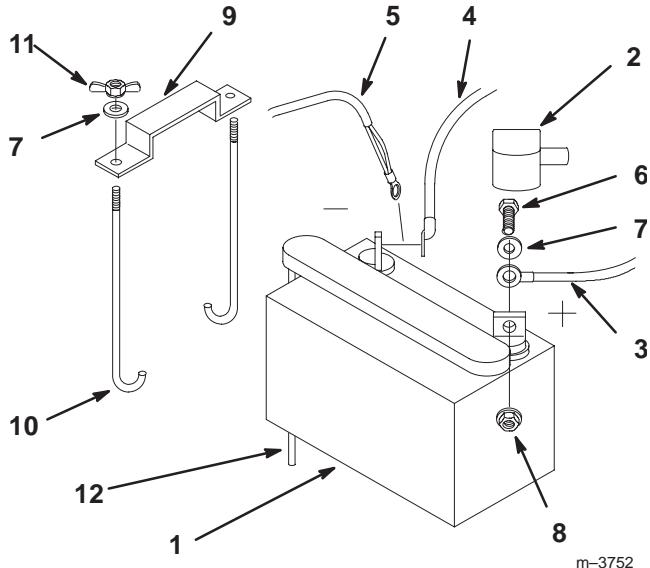

Figure 8
1. Position battery in tray with terminal posts toward the engine (Fig. 8).
4. Secure cables with (2) 1/4 x 3/4" (19 mm) bolts 1/4" washers and 1/4" locknuts (Fig. 8).
- Secure battery with J-bolts, hold down clamp and (2) 1/4" washers and (2) 1/4" wing nuts (Fig. 8).